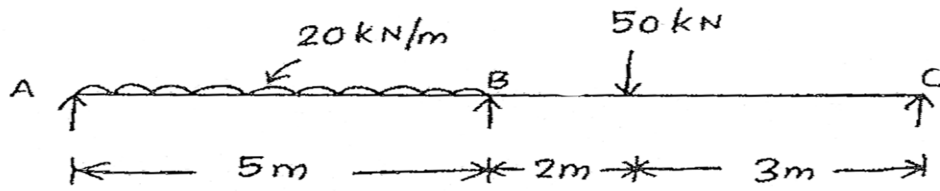

Fig. Q. 15 (a)
15. a) Analyse the continuous beam given in Fig. Q. 15 (a) by moment distribution method.